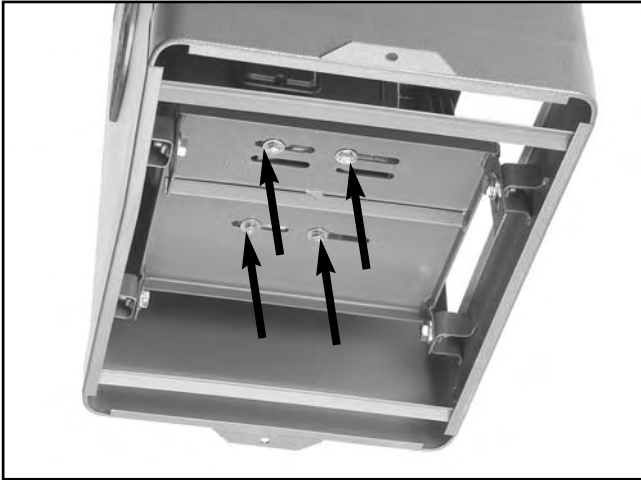

Figure 19. Motor mount bolts (shown underneath stand for clarity).
4. Loosen the motor mount bolts shown in **Figure 19**.